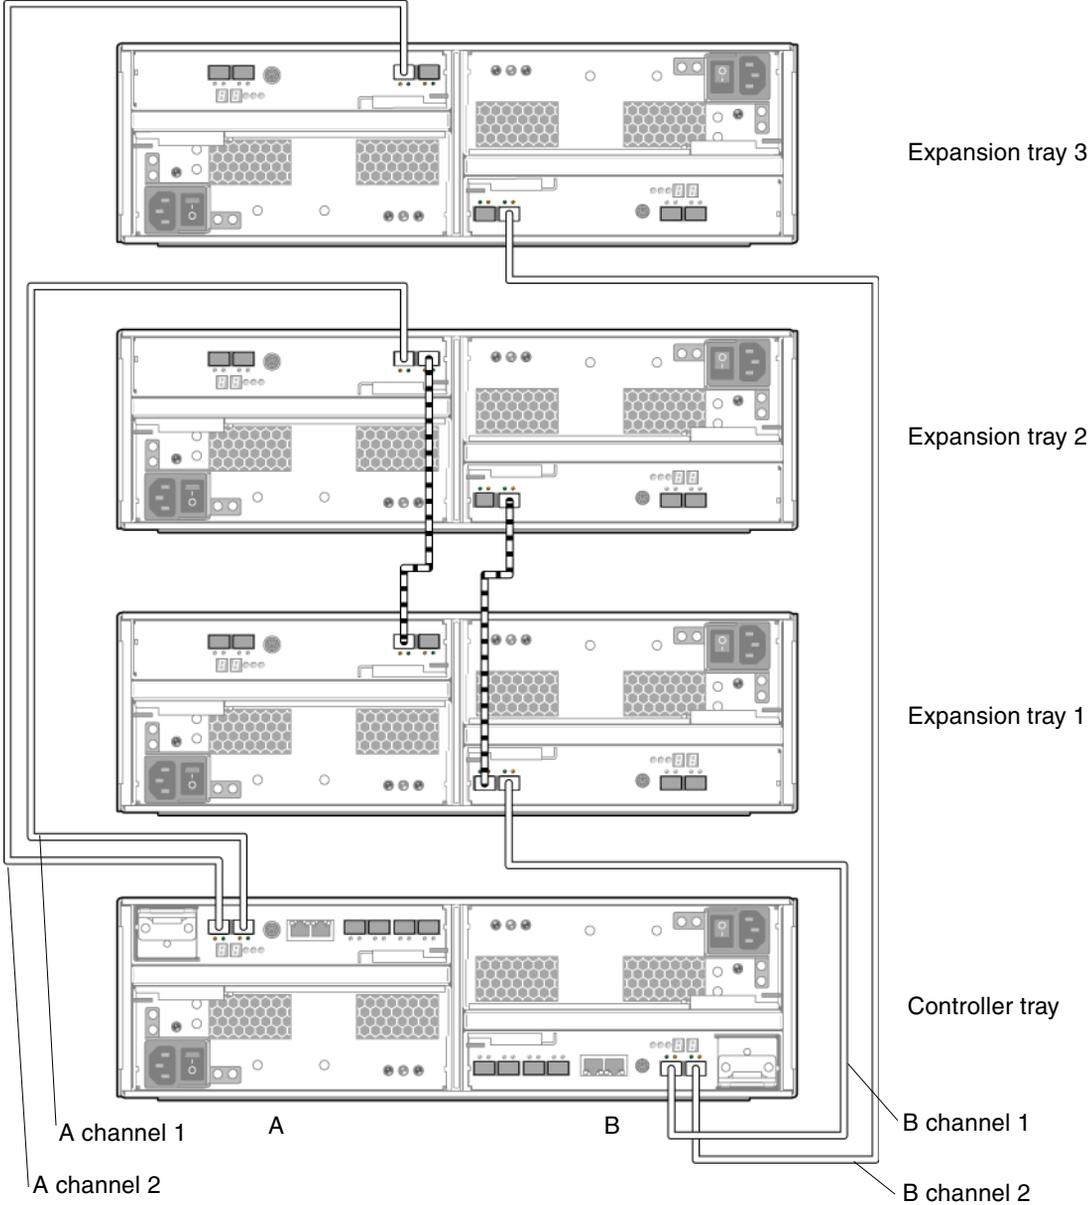

FIGURE 2-25 1x4 Array Configuration Cabling
3. Connect one FC cable between the Controller B channel 1 expansion port and the B-side expansion port 1B of expansion tray 1 (FIGURE 2-25).
4. Connect one FC cable between the Controller B channel 2 expansion port and the B-side expansion port 1B of expansion tray 3 (FIGURE 2-25).
5. Connect one FC cable between the B-side expansion port 1A of expansion tray 1 and the B-side expansion port 1B of expansion tray 2 (FIGURE 2-25).
6. Connect one FC cable between the Controller A channel 1 expansion port and the A-side expansion port 1B of expansion tray 2 (FIGURE 2-25).
7. Connect one FC cable between the Controller A channel 2 expansion port and the A-side expansion port 1B of expansion tray 3 (FIGURE 2-25).
8. Connect one FC cable between the A-side expansion port 1B of expansion tray 1 and the A-side expansion port 1A of expansion tray 2 (FIGURE 2-25).